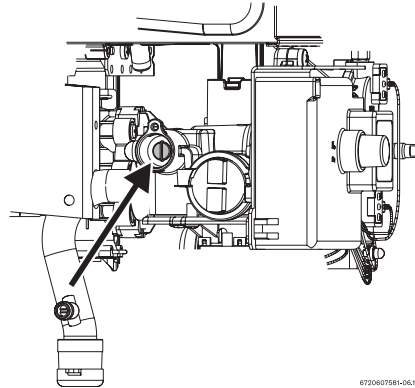

Fig. 14 Maximum gas flow adjusting screw
- ▶ Remove the seal from the adjusting screw (Fig. 14).
- ▶ Using the adjusting screw (Fig. 14), regulate the pressure until achieving the values indicated in the table 6.